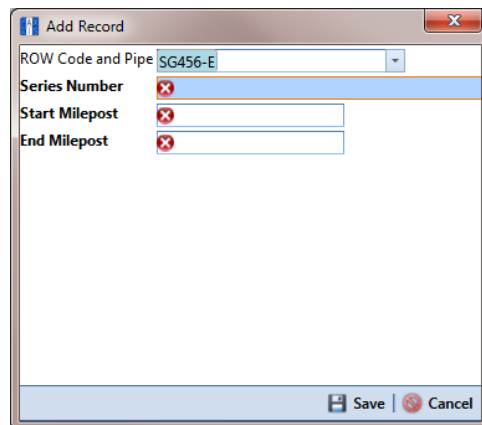

Figure 3-68. Add Record
- 5 Click **Save** to display required field(s) for data entry. Required fields are identified with the **✖** icon, such as *Series Number*, *Start Milepost*, and *End Milepost* in the next figure (Figure 3-68).